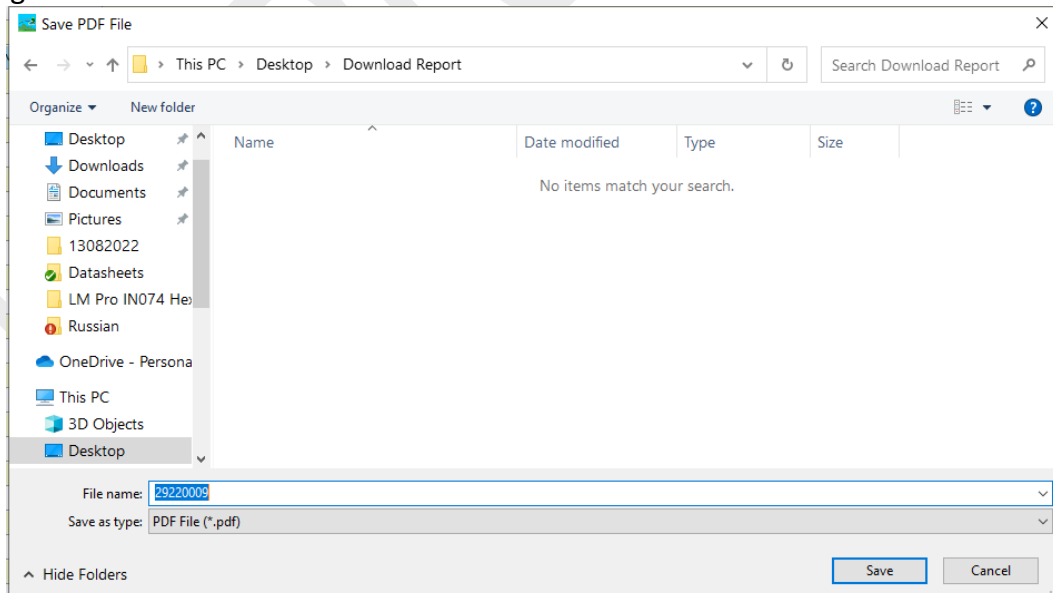

Figure 10 Selecting file location for saving PDF report
- Generate the PDF report of data summary by clicking on  icon. A pop-up window will appear for selecting the file path and filename of report to be generated as shown in figure 10.